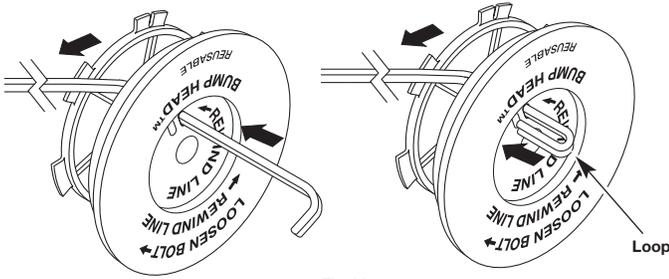

Fig. 32
- Take approximately 9 feet (3 m) of new trimming line. Insert one end of the line through one of the two holes in the inner reel (Fig. 32). Pull the line through the inner reel until only about 4 inches is left out.
- Insert the end of the line into the open hole in the inner reel and pull the line tight to make the loop as small as possible (Fig. 32).